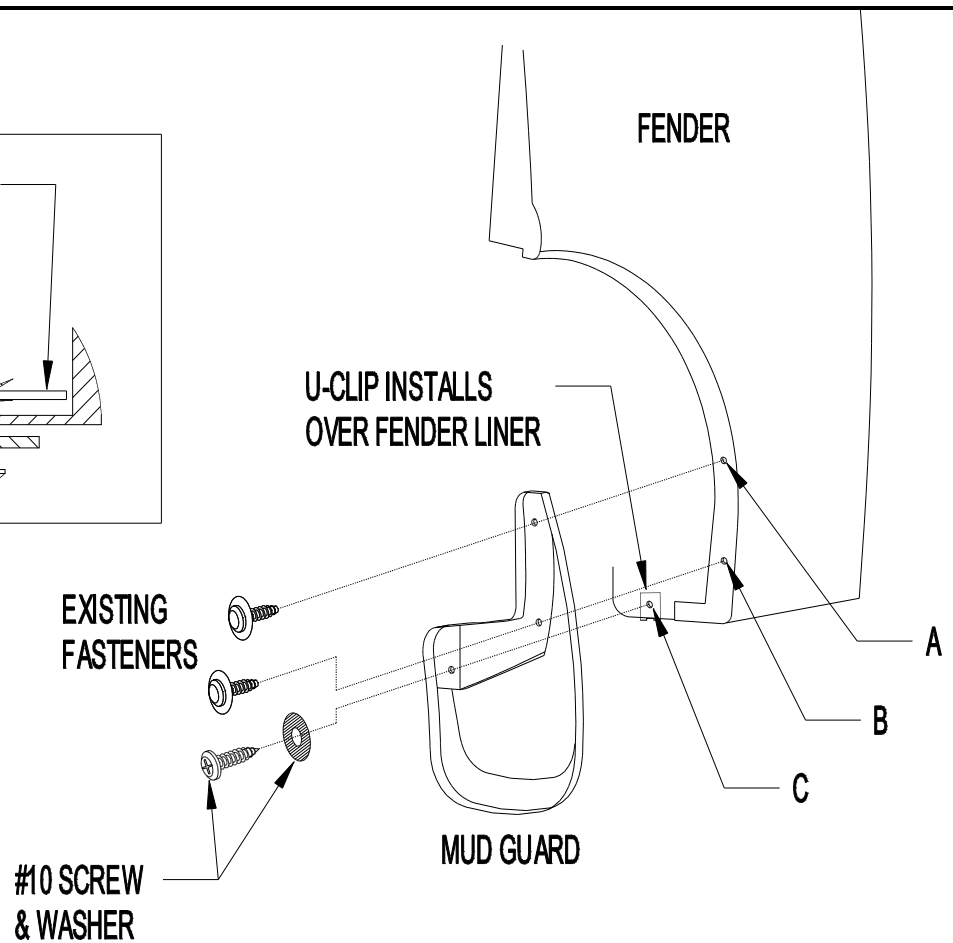

Figure 1
1. Remove the existing fasteners from locations A and B (Figure 1).
4. Install a U-clip at location C, over the fender liner and align with drilled hole (Figure 1).
5. Install a #10 Screw thru a Fender Washer, thru the mud guard and into the U-Clip at location C (Figures 1 and 2).